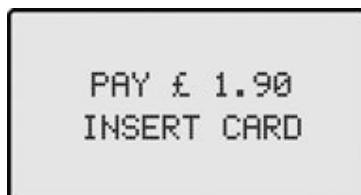

Figure 6-4 Pay amount insert card
3. Press the <ENTER>-key. Both displays will show (if the customer has not already inserted his card) as in Figure 6-4.